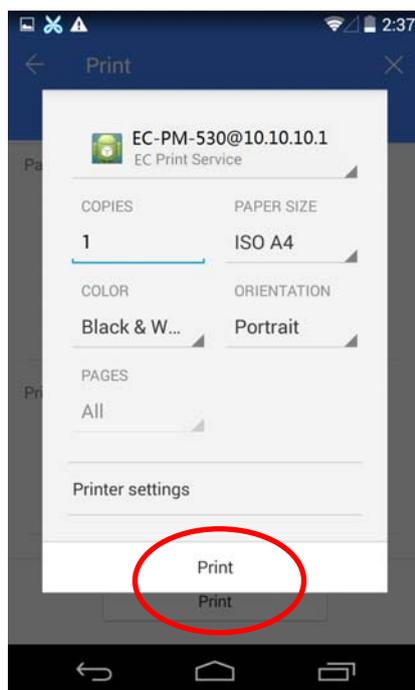

Figure 31
- 4.7 Make sure the printer and the corresponding printing parameters are correct, click “Print”, as shown in Figure 31.